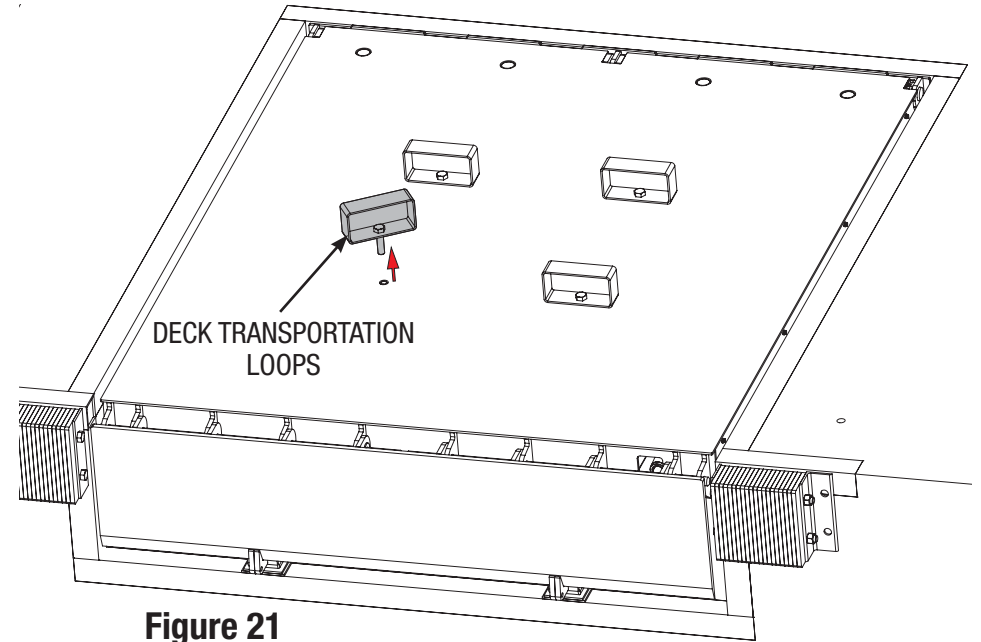

Figure 21
3. Remove the four deck transportation loops, as shown in **Figure 21**.